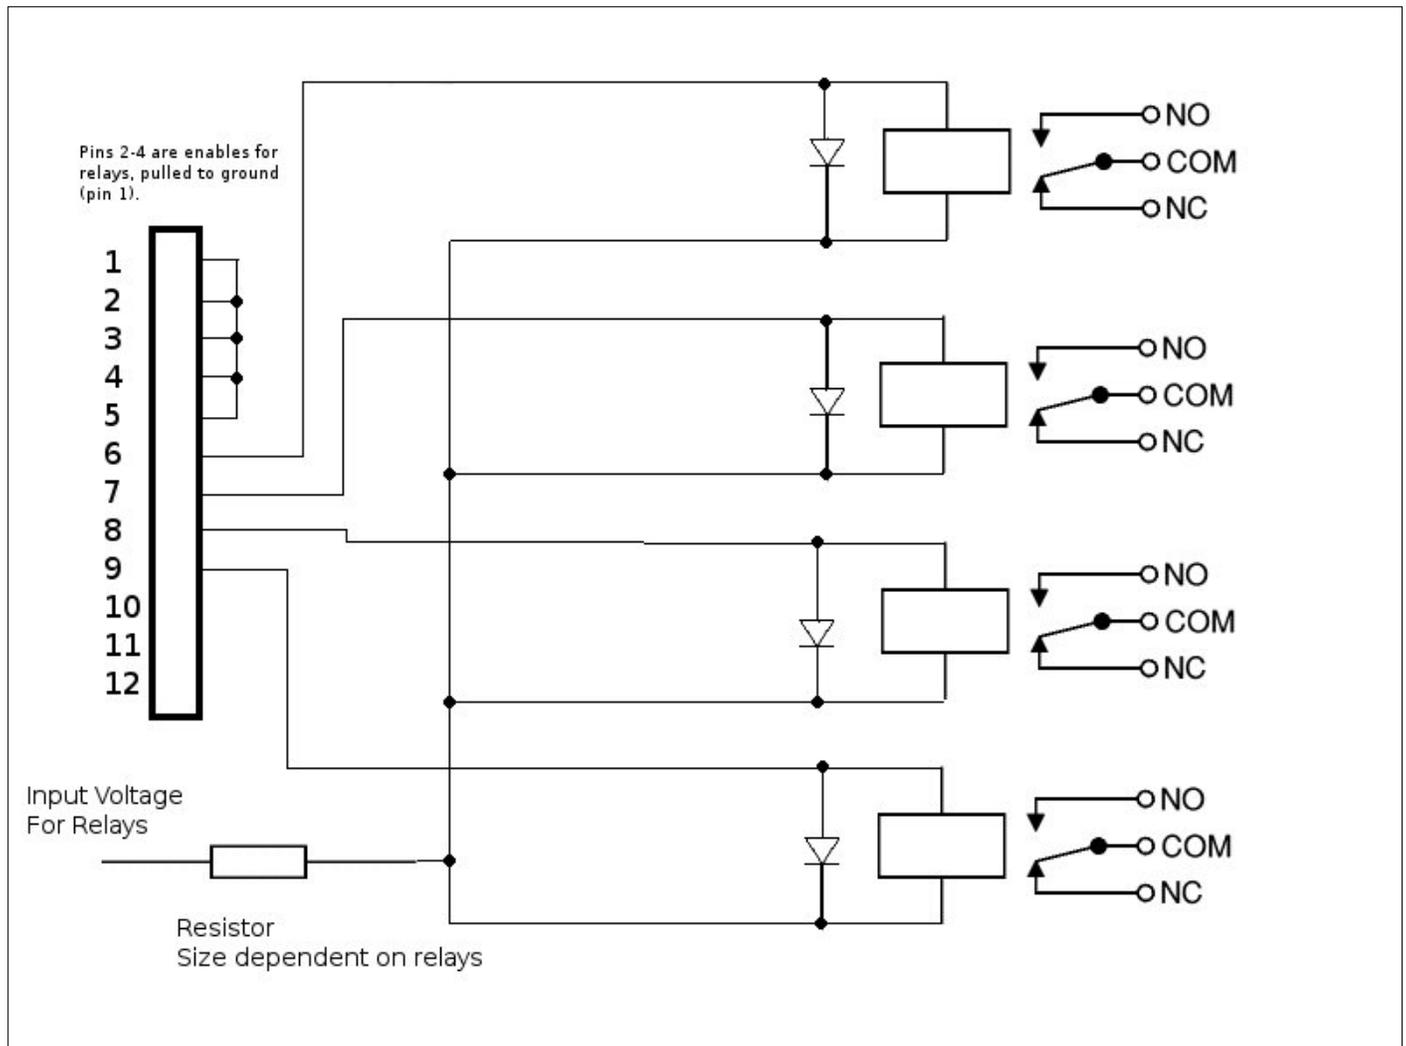

Figure 33
- The *1-4 Button/Lamp interface port (J13)* is used to setup the four relays or card dispensers (Figure 33)
To use the *1-4 Button/Lamp – J13* and the *5-8 Button/Lamp – J14* interface the U7 chip (UDN2695) must be installed on the Raptor II board. **The UDN2695 chip can only support 350 milliamps.** If you need a higher current capability, then external relays must be installed as shown if figure 33.